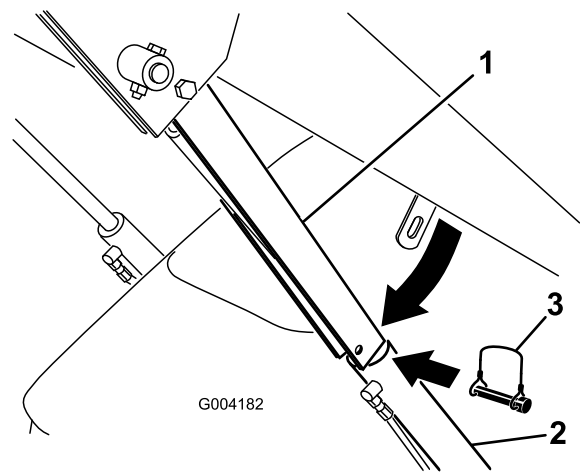

Figure 19
4. Remove the lynch pin securing the cylinder lock to the loader arm (Figure 19).
5. Lower the cylinder lock over the cylinder rod and secure it with the lynch pin (Figure 19).